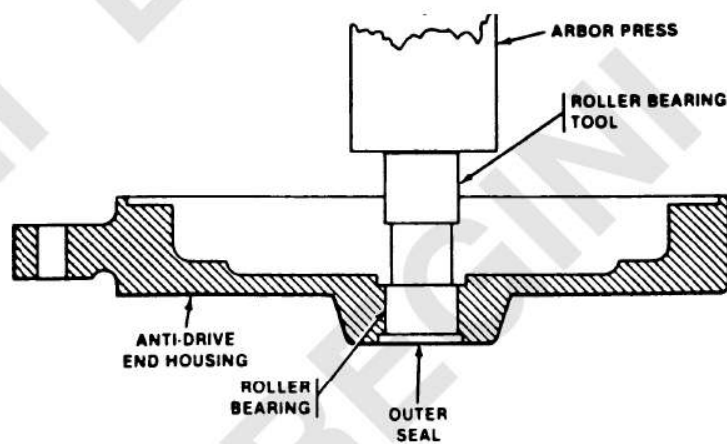

Figure 3-5. Roller Bearing and Outer Seal Removal from Anti-Drive End Housing.
(b) Turn anti-drive end housing over, and place it in arbor press according to figure 3-5.
(c) Place roller bearing tool (fig. F-1) on roller bearing flange according to figure 3-5, and press out outer seal (11) and roller bearing (12) at the same time. Discard bearing and seal.